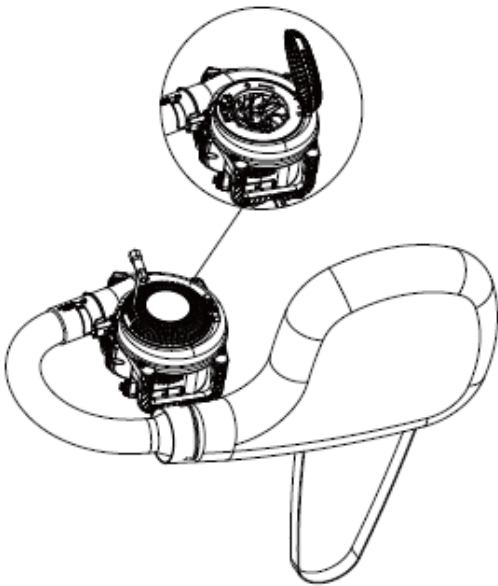

Fig. 6
- 3) Insert the tip of a flathead screwdriver or the spark plug wrench ( provided ) vertically into the slot of the air intake cover, turn the tool counterclockwise to unlock the air intake cover and open (Fig.6).